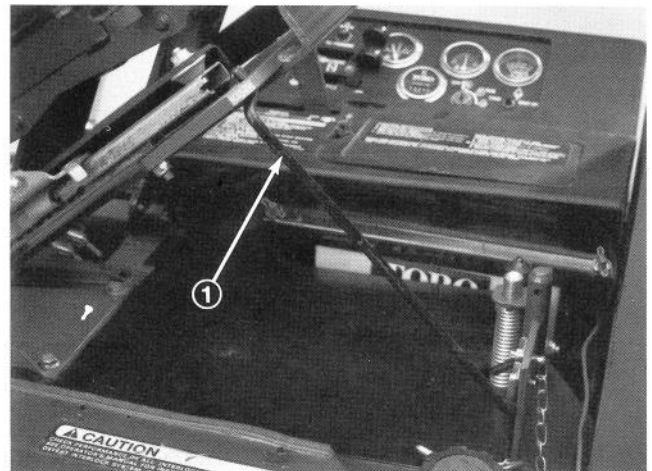

Figure 10
7. Mount seat support over four threaded studs at the bottom of seat suspension assembly and secure in place with lockwashers and nuts (Fig. 10).